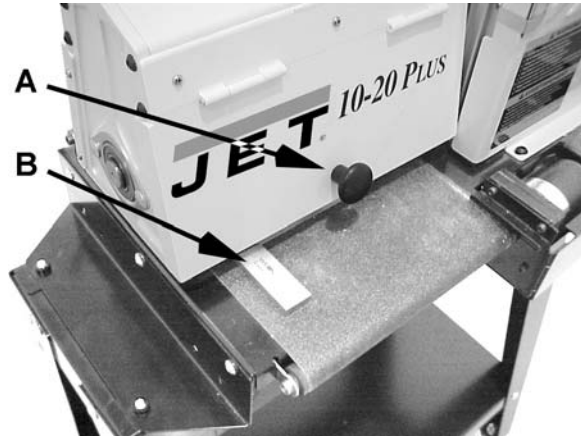

Figure 6
1. Lift the *knob* (A, Fig. 6) to open the dust cover and remove the abrasive strip. If you are unsure how to do this, see the “Wrapping Abrasive Strips” section in this manual.
2. Using a metal straight edge, or ruler, as a thickness gauge (B, Fig. 6), insert the gauge between the drum and the conveyor bed on the outer end of the drum.